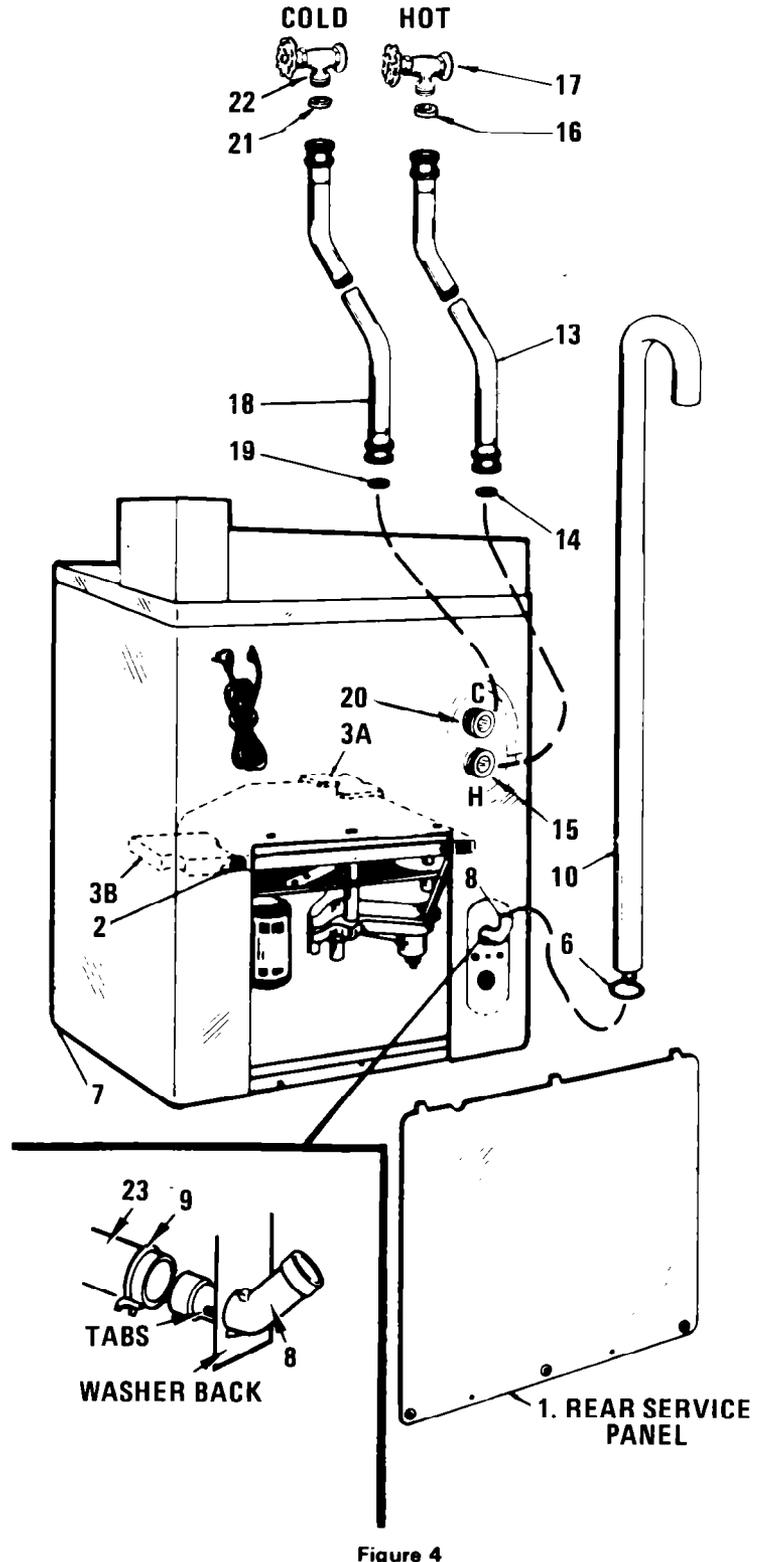
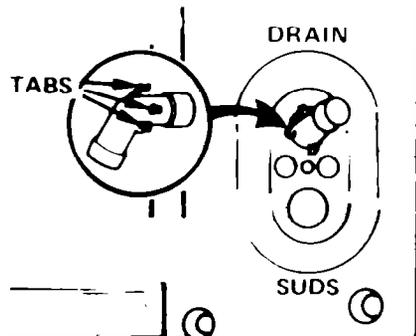

Figure 4
Figure 7
## 4. Shipping Accessory Removal . . . Rear of appliance (See Figure 4.)
### 5. Drain Hose Assembly (See Figure 4 & 7)
From the inside, place plain end (no tabs) of the angle connector (8) through the lower hole in cabinet and snap in place. Position the angle connector from outside to face the standpipe. (See Figure 7.) Next, place the smaller hose clamp (9) on the internal drain hose (23). Remove plug from inside hose, then place the hose on the angle connector. Secure with hose clamp. Place the larger hose clamp (6) on the discharge hose (10) and place on the angle connector. (See Figure 4 & 8)